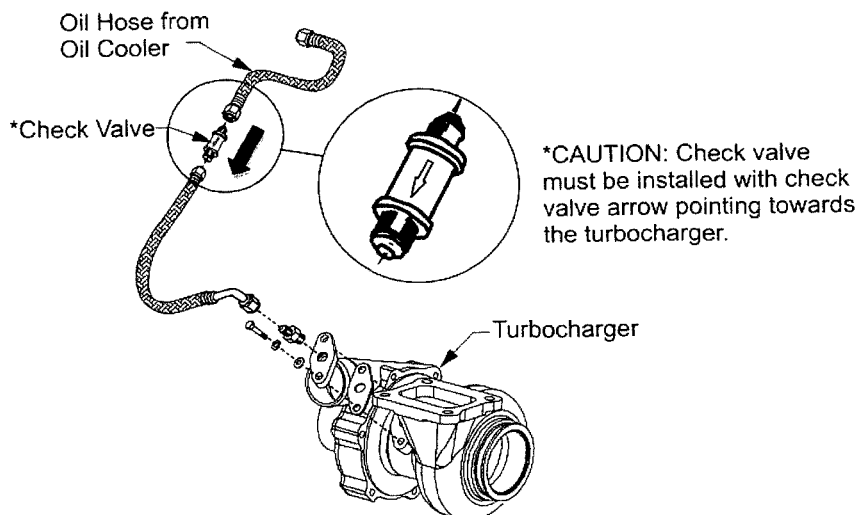

Figure 1. Single Turbocharger Lubrication (check valve location, typical)
- a. hose servicing turbocharger (see Figure 1), or
*CAUTION: Check valve must be installed with the **check valve arrow** pointing towards the turbocharger (see Figures 1 and 2). If the check valve is installed improperly it will cause the check valve to malfunction and prevent turbocharger lubrication.*
- a. hose servicing turbocharger and torque to 150-195 in.-lbs. (reference Figure 1), or